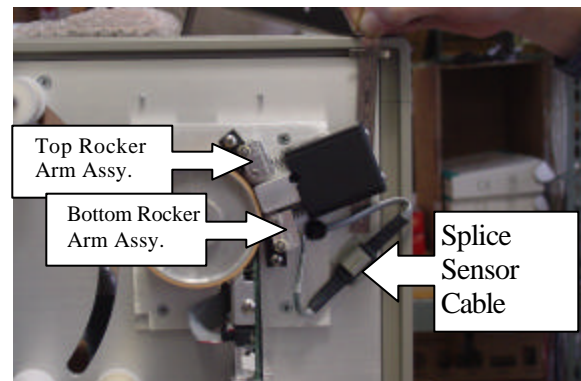
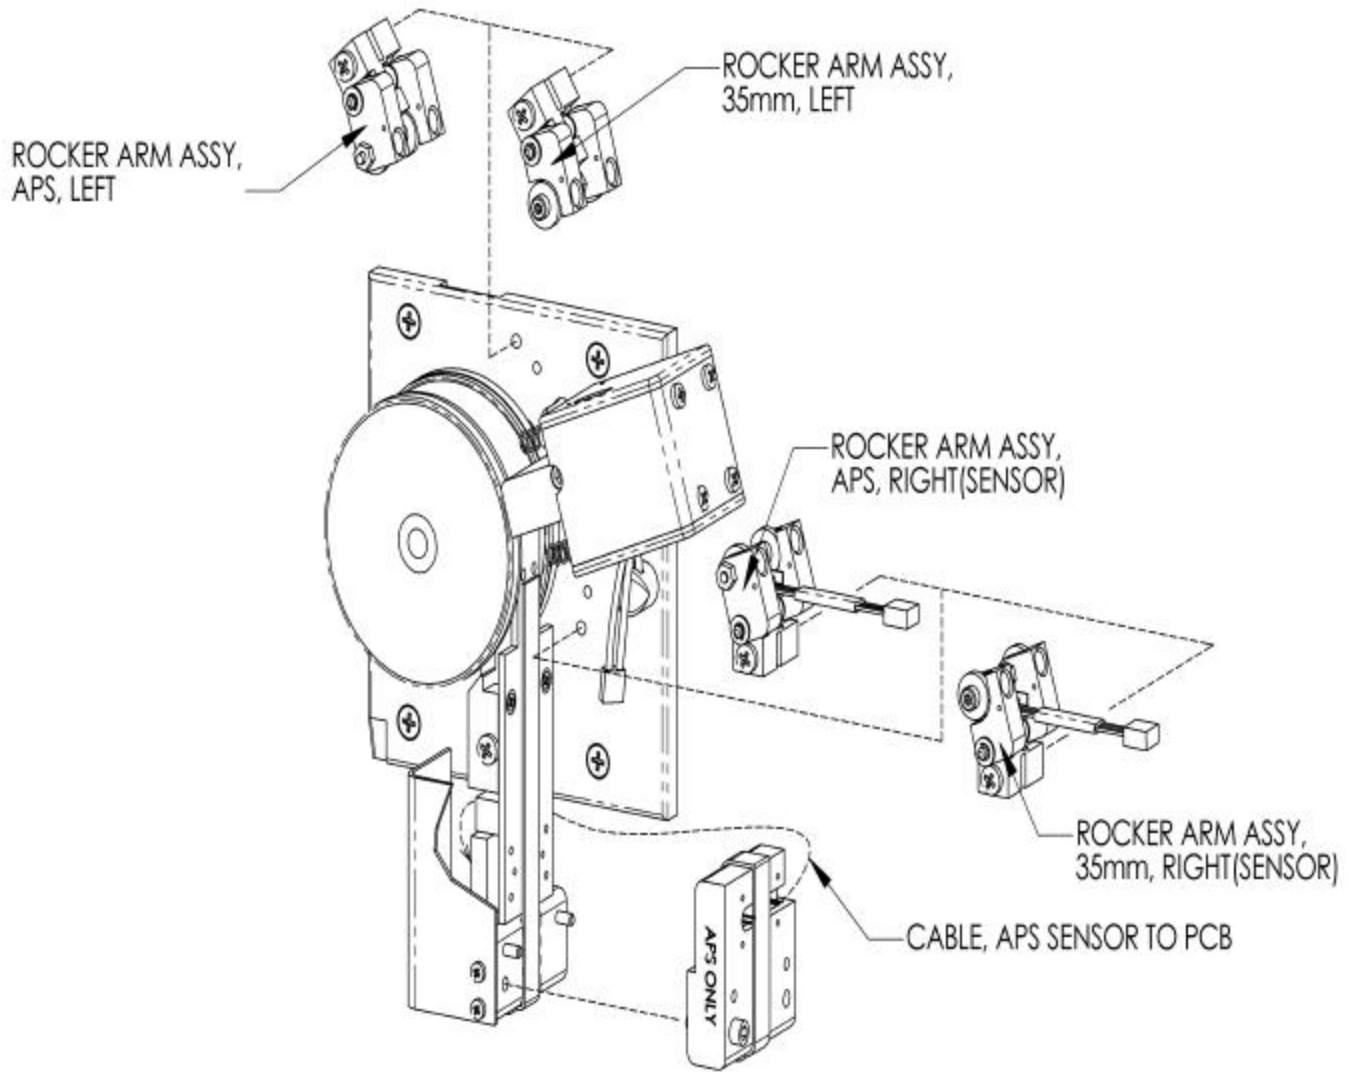
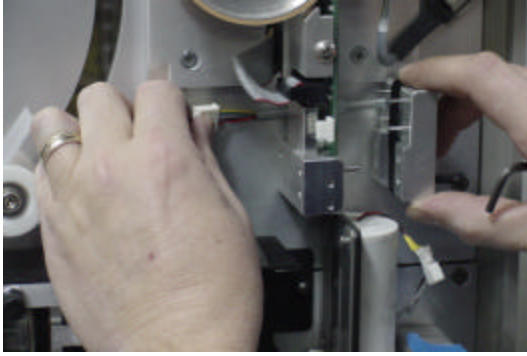

Figure B2
Figure 1
Figure B3
- 3) Remove the Top Rocker Arm Assembly, by removing the mounting screw. Set these parts aside. See Figure B2 and Figure 1.
- 4) Unplug the Splice Sensor Cable from the Bottom Rocker Arm Assembly. See Figure B2.
- 5) Remove the Bottom Rocker Arm Assembly by removing the mounting screw. Set these parts aside. See Figure B2 and Figure 1.
- 6) If going from APS to 35mm format, remove the Perforation Sensor. See Figure B3 and Figure 1.
- 1) Take the Bottom Rocker Arm Assembly from the Kit box and using the screw set aside from step 5, install it in place, making sure the springs are fully seated in the holes in the tracking wheel mounts. See Figure B2. Fully tighten the retaining screw. **Warning – do not over tighten the screw.**
- 2) Plug the Splice Sensor Cable together again. See Figure B2.
- 3) Take the Top Rocker Arm Assembly from the Kit box and using the screw set aside from step 3, install it in place, making sure the springs are fully seated in the holes in the tracking wheel mounts. See Figure B2. Fully tighten the retaining screw. **Warning – do not over tighten the screw.**
- 4) If going from a 35mm to APS format, remove the Perforation Sensor Block from the Kit box, and install it on the Pre-Scan sensor. Plug the cable into the header on the Pre-Scan sensor board. See Figure B3. **Warning – do not over tighten the mounting screw.**